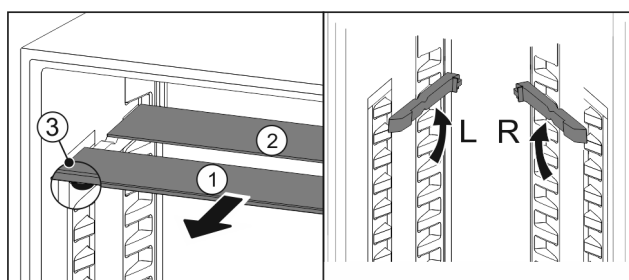

Fig. 97
- Pull the glass panels out Fig. 97 (1) from the front, one at a time.
- ▷ The glass panel Fig. 97 (1) and trim strip are at the front.
- ▷ The stops Fig. 97 (3) point down.